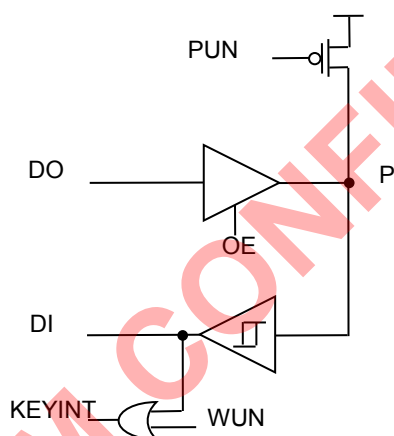

Figure11.1 Ports I/O block diagram
A8137M0 has 24pins digital I/O Pins and each of the Port pin can be defined as general-purpose I/O (GPIO) or peripheral I/O signals connected to the timers, UART, I²C and SPI functions. Thus, each pin can also be used to wake up from sleep MODE. User can select each pin function by setting register. Each port has itself port register like P0 (0x40010000), that are both byte addressable and bit addressable. When reading, the logic levels of the Port's input pins are returned. Each port has three registers to setting Pull-up (PUN), Output-enable (OE) and Wake-up enable (WUN). As shown the bellow block diagram, Fig. 11.1. Unused I/O pins should have a defined level and not be left floating. One way to do this is to leave the pin unconnected and configure the pin as a general-purpose I/O input with pull-up resistor.